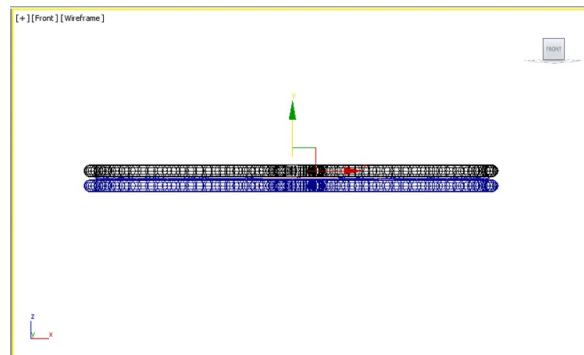

Figure 12-83 Alignment of the *shaft002* at the top of the racket head
9. Align *shaft002* at the top of *racket head*, as shown in Figure 12-83.